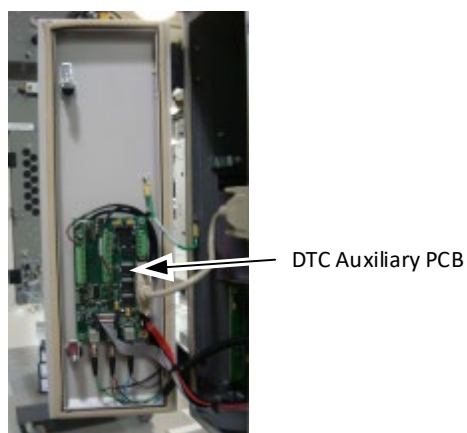

Fig. 8.9. Left Front Door
8.4.2 Left front door components (see Figure 8.9)